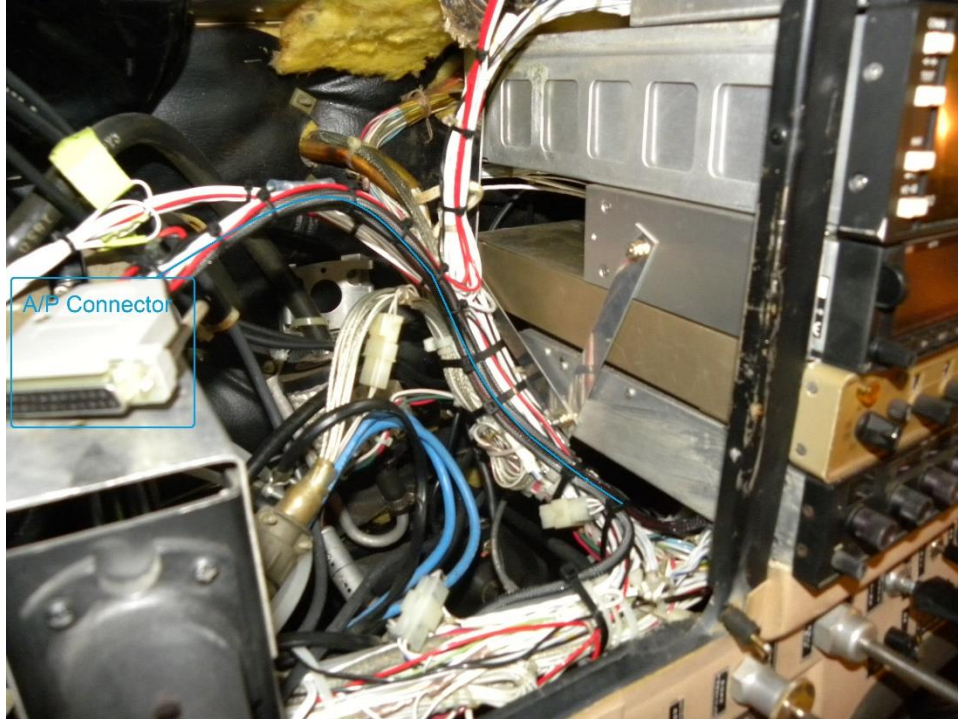
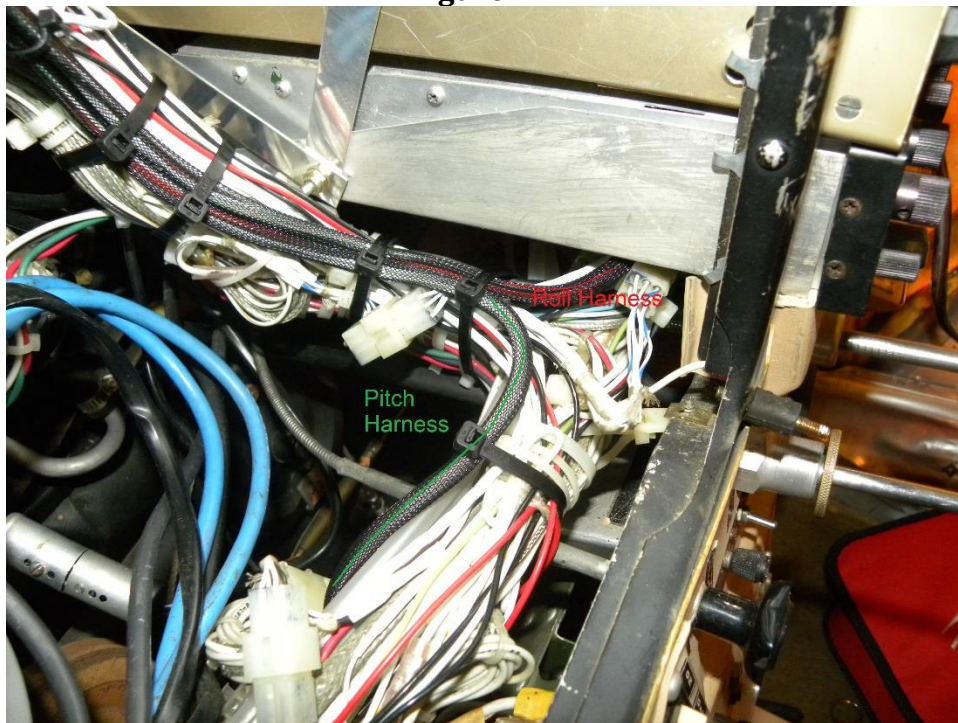

Figure 4-7
Figure 4-8
- 4.1. Route the pitch (white) and roll (black) servo harnesses down the left side of the center stack as shown in figures 4-7 and 4-8. The blue line in Figure 4-7 shows the main autopilot bundle. The red line in figure 4-8 shows the roll servo harness and the green line shows the pitch servo harness.